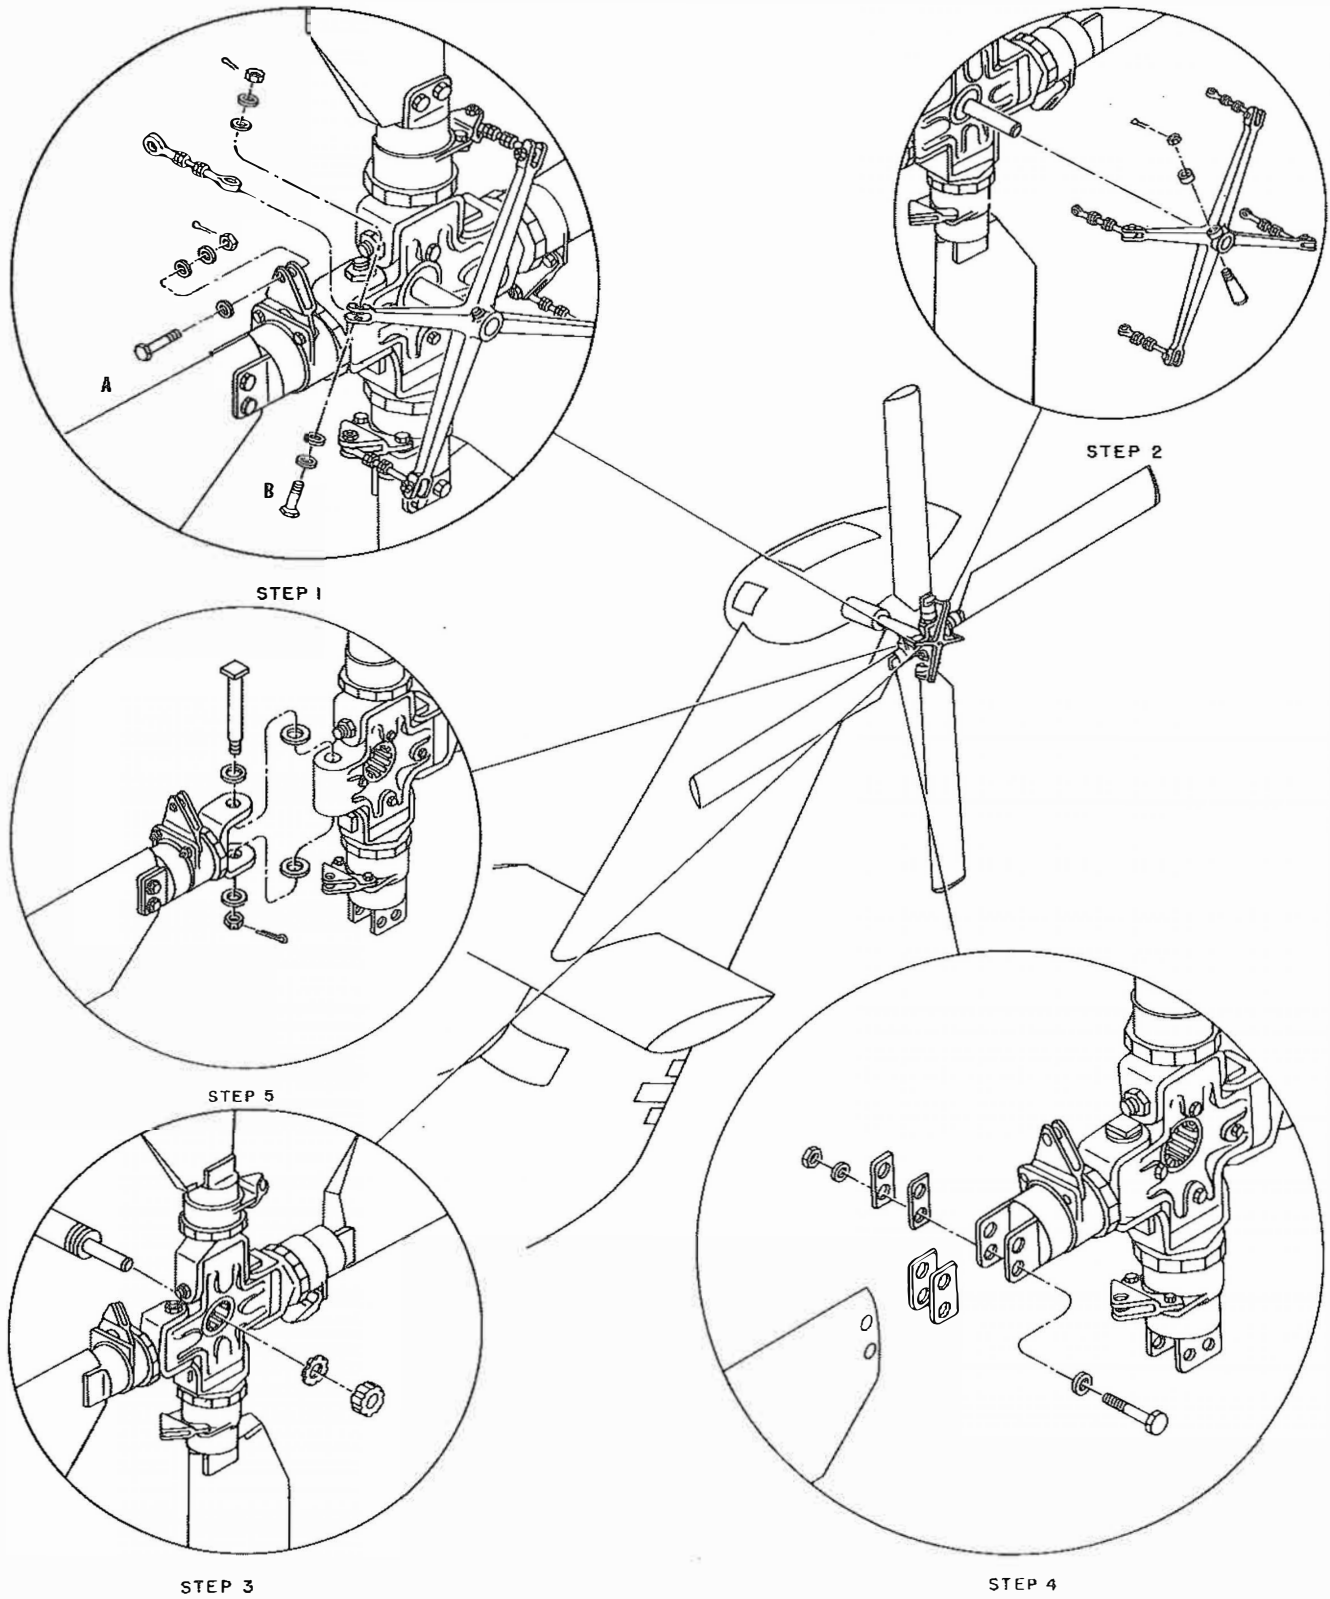
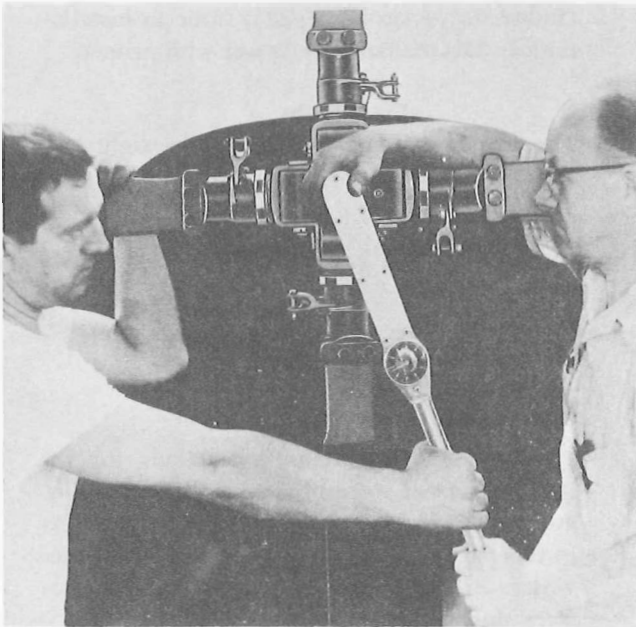

Figure 2-35. Tail Rotor Assembly Removal and Disassembly
Figure 2-36. Torquing Tail Rotor Nut
#### 2-362. REMOVAL. (See figure 2-35.)
#### 2-364. REMOVAL OF BLADES. (See figure 2-35.)
a. Remove each blade by removing the nuts, washers, shims and bolts. Tap out the bolts with a fiber mallet. Remove any balance shims (step 4, figure 2-35).
#### 2-365. REMOVAL OF BLADES WITH SPINDLES. (See figure 2-35.)
a. Support each tail rotor blade and spindle and remove the pin, washers, nut and cotter pin which secure the spindle to the arm of the hub assembly. (See figure 2-35, step 5.)
(See figure 2-35.)**Note**
## 2-369. INSTALLATION OF BLADES WITH SPINDLES. (See figure 2-35.)
c. Secure the spindle to the hub with the pin, washers and nut. Tighten the nut with 25 to 38 foot-pounds torque. Install the cotter pin. (See figure 2-35, step 5.)
## 2-370. INSTALLATION. (See figure 2-35.)
c. Install the lock washer. Use thread lubricant (index 43, paragraph 1-32) on the nut. Tighten the nut with 180 to 220 foot-pounds torque using wrench, Sikorsky part No. S1670-10310, and a torque wrench. (See figure 2-36.) Bend down a tang of the lock washer (step 3, figure 2-35).